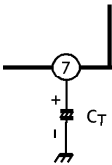

Fig.3 Smoothing function
The Pin⑦ is the smoothing terminal for reducing the pop noise produced at F / R switchover by using the external capacitor CT. (Fig.3)